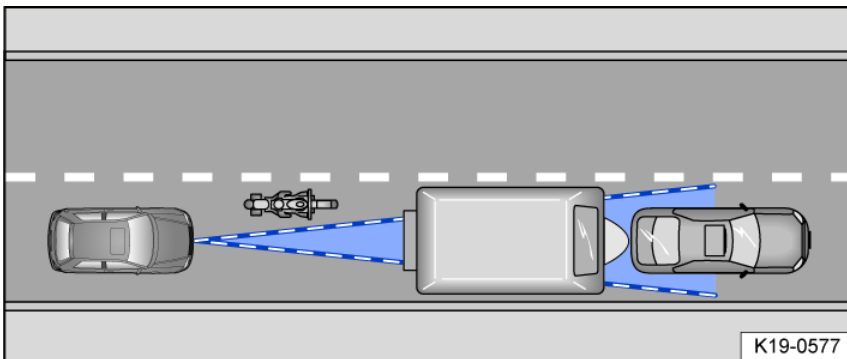

Fig. 109 Narrow vehicle.
- If there are vehicles that are driving close to your vehicle but outside the sensor range, such as motorcycles fig. 109.